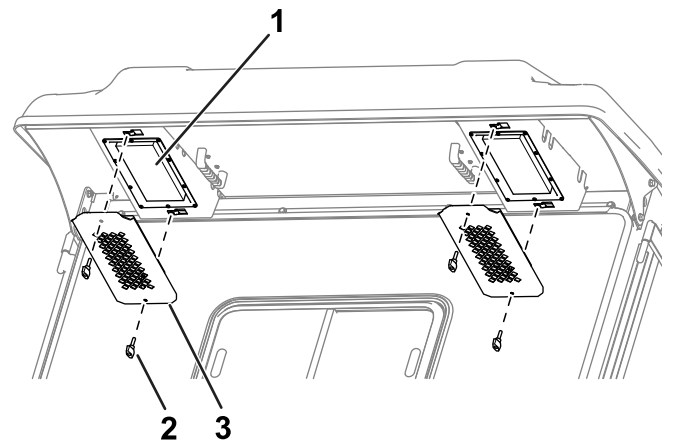

Figure 82
1. Remove the knobs and grates from the cab rear overhang (Figure 82).
4. Use the knobs and grates to install the filters into the cab (Figure 82).